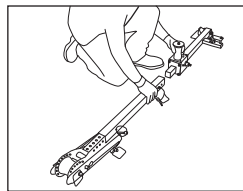

Fig 1
4. Slide 2" outer sleeve over gearbox assembly and reinstall clevis pin (Fig 1).